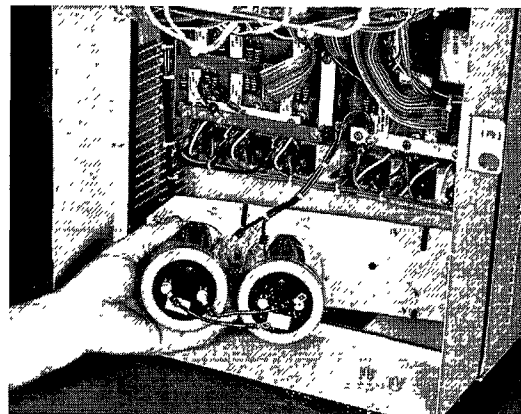

FIGURE 36
4. Carefully lift the assembly from the fixed studs and rotate to the right in order to remove the assembly. (see Figures 36 and 37)